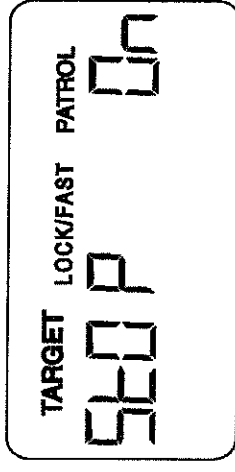
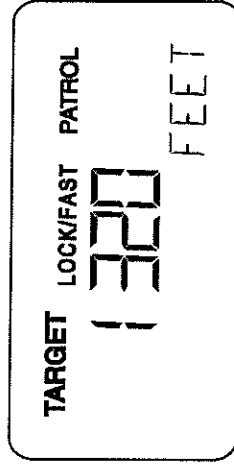

Fig. 23
Fig. 24
1. Enter Stopwatch Mode using either the **STALKERII** rear panel or the remote control. Press and hold the **MENU** key to enter the Setup Mode, and then press the **MENU** key seven more times to get to the Stopwatch menu step. Use the **▲** and **▼** keys to set **500 P** to **0n**. Fig. 23 shows the Stopwatch Mode in its ON setting. Press the trigger to exit Setup Mode and enter Stopwatch Mode (shown in Fig 24). The 1320 feet display will normally be a different number – depending upon its previous setting.